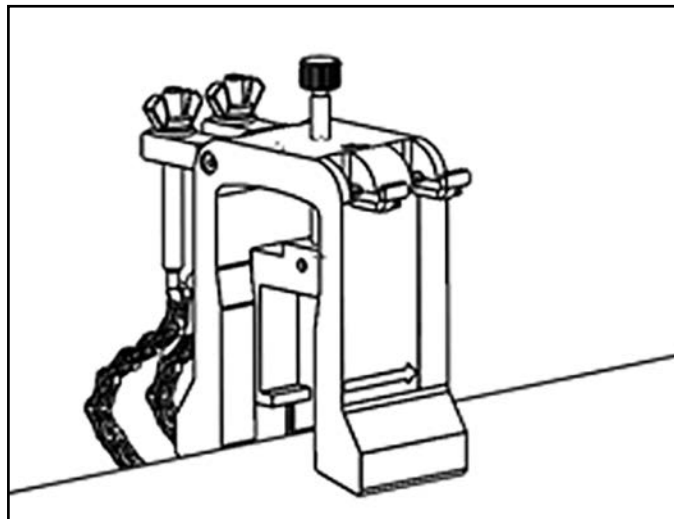

Figure 36: Yoke Placement On Top of Pipe
2. Place the yoke on the top of the pipe (see Figure 36 below). If the required transducer spacing is <305 mm/12 in., the yoke chain must be placed within the clamping fixture as shown.